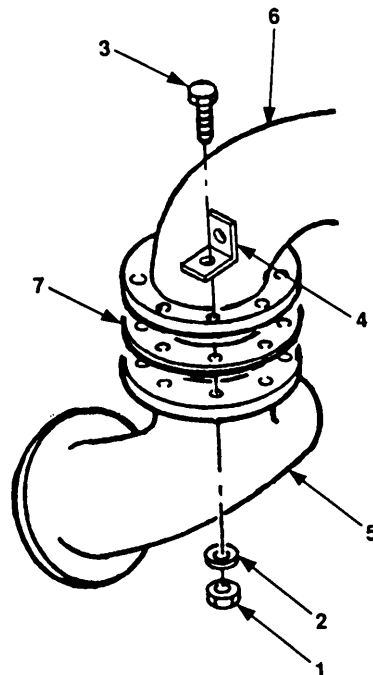

Figure 4-54. Discharge Manifold Maintenance.
- a. Remove eight nuts (figure 4-54, 1), lockwashers (2) bolts (3) and one bracket (4).
- b. Remove discharge manifold (5) from discharge connection (6).
- c. Remove and discard gasket (7).